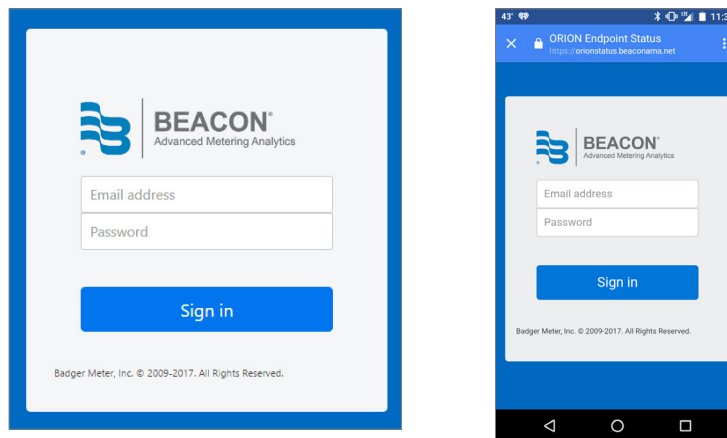

Figure 24: Tool sign in screen - computer and mobile
2. Sign in with your BEACON email address and password (Figure 24).